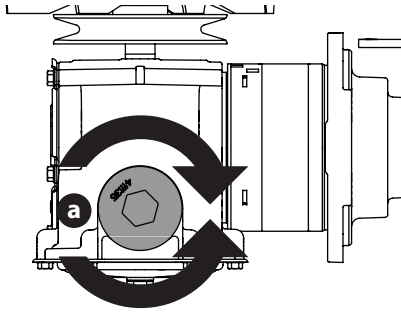

Fig. 43
2. Place a suitable container under the drain plug (a) on the transmission. Remove the drain plug (a) and allow the transmission oil to drain (Fig. 43).